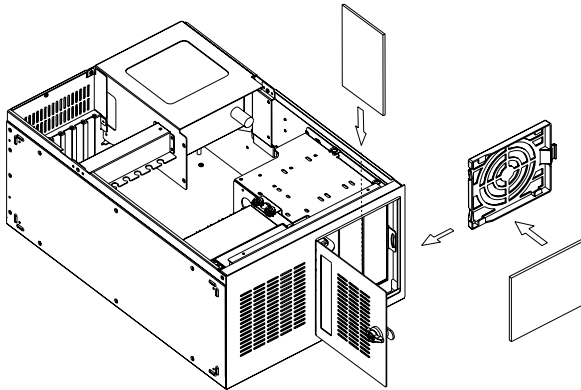

Figure 3-2 Changing the filters
2. Refer to Figure 3-2. Remove the filter inside the tray of the drive bay door, and replace it with a new one.
2. Refer to Figure 3-2 and lift the filter holder with two fingers.